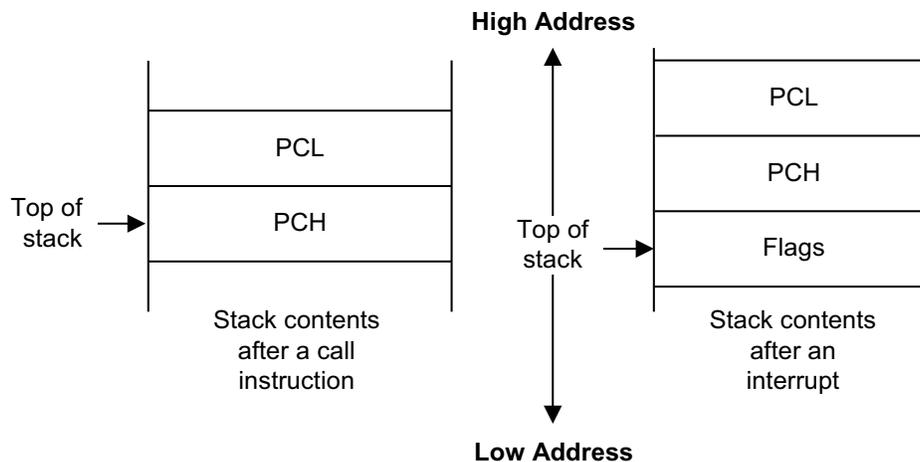

Figure 27. Stack Operations
after a pop operation. The Stack Pointer (SP) always points to the stack frame stored on the top of the stack, as shown in Figure 27.